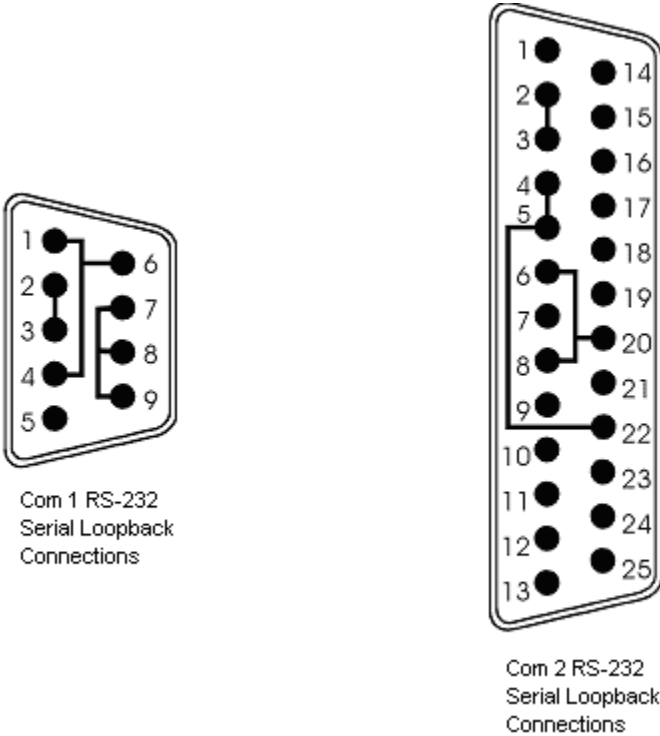

Figure 4-1. Serial Loopback Connections
3. Connect the serial loopback connector(s) and the printer cable to the appropriate connectors, and connect a PC/AT or PS/2 keyboard. Figure 4-1 illustrates the wiring necessary for the loopback connection.